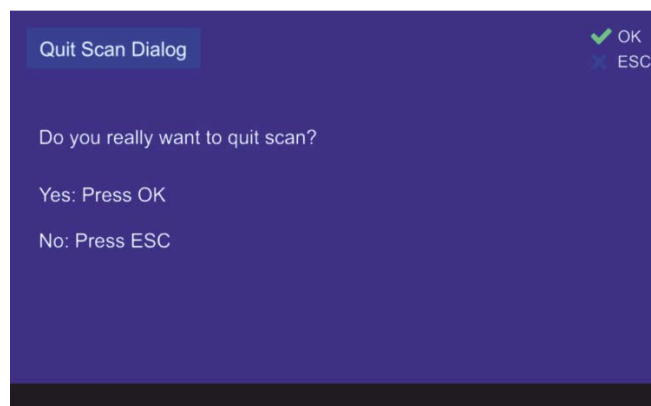

Fig. 36 Confirming of leaving the scan mode
- You can also stop the scan mode by pressing the “HOME” button on the “Bearing” page with activated scan. After you have confirmed the special dialog (s. Fig. 36), this mode will be terminated.